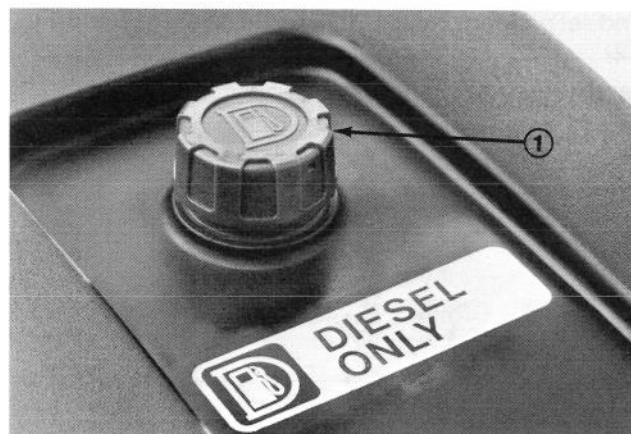

Figure 13
2. Remove cap from the fuel tank (Fig. 13) and fill the 7.5 gallon (28.4 l) tank to within 1 inch (25 mm) from